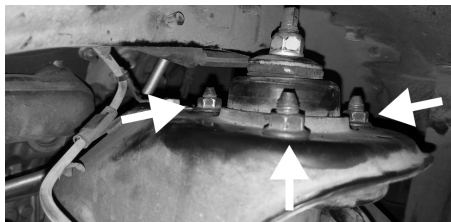

Fig. 4: Right side shown
3f. Using a 14mm wrench, remove the (3) nuts on top of each coil-over. (Fig 4) - DO NOT REMOVE THE CENTER NUT. Do not discard OEM hardware. (Fig 4) (OE Torque: 24 ft-lbs)